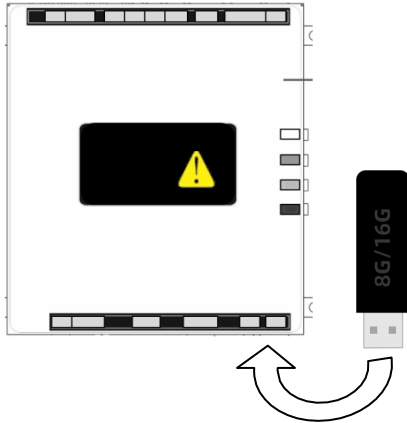

Figure 8.1 Loading Control Software
1. Locate the socket for the U flash disk (Refer to Figure 8.1).